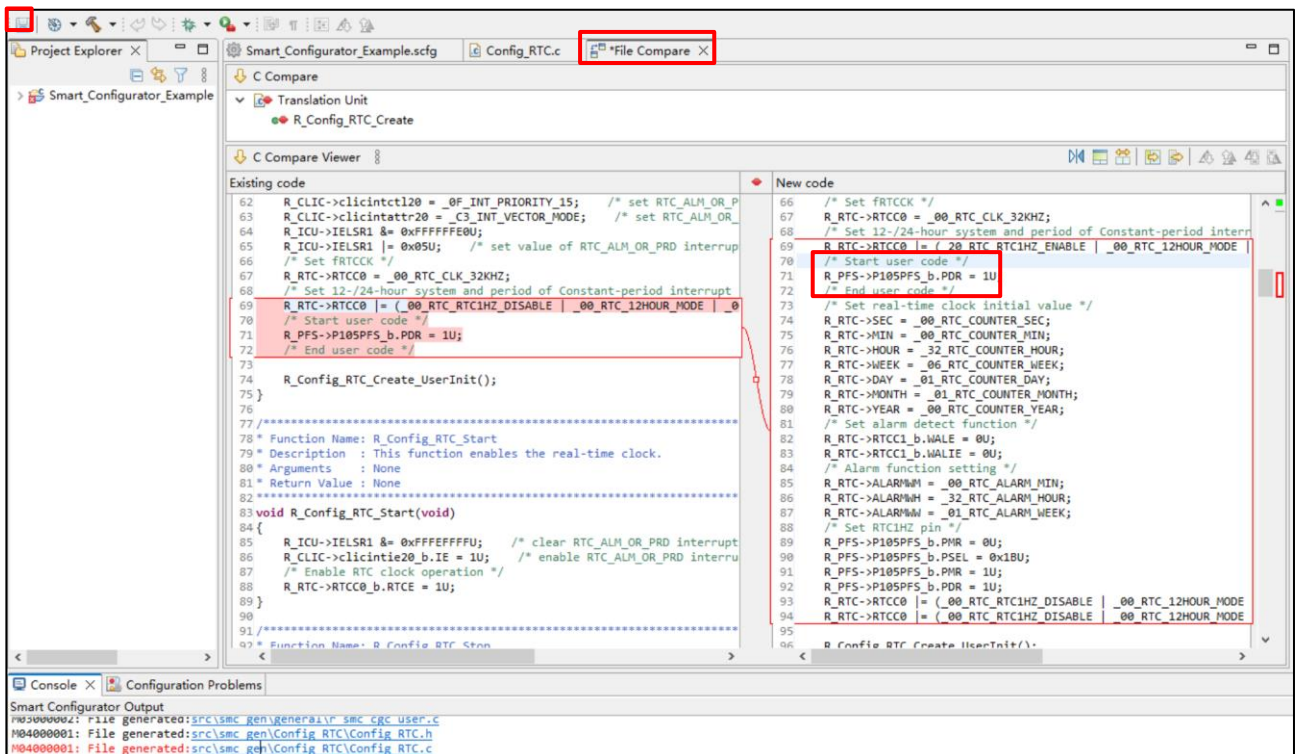

Figure 11-6 Code after Moving and Saving
(4) Save the modified code (Figure 11-6 Code after Moving and Saving).